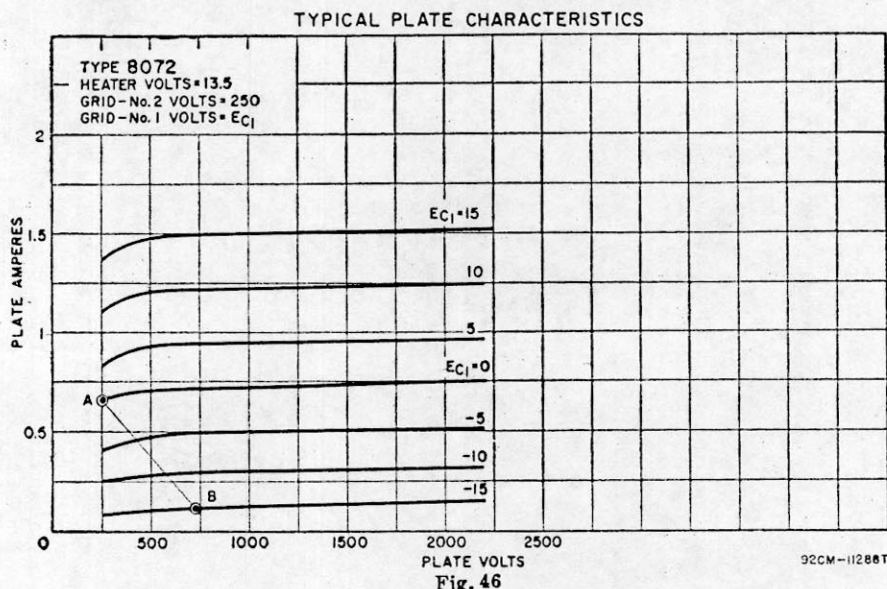
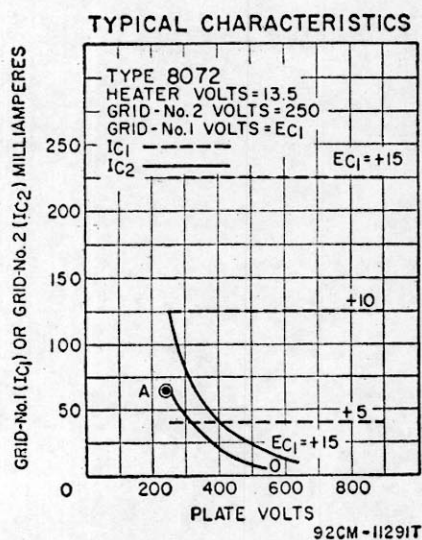

Fig. 46
Fig. 47
The operating conditions for a class AB1 linear rf amplifier used in single-sideband service can be estimated from the load line plotted on a set of plate characteristics. The typical plate and grid-No.2 characteristic curves shown in Figs. 46 and 47 are used in the following
(3) Select a value of zero-signal plate current ( $I_{b0}$ ) between  $1/6$  and  $1/10$  of  $I_{bmax}$  found in (2). Locate  $I_{b0}$  at selected  $E_b$  and construct a load line to the point found in (2). In general, the
(5) Determine the grid-No.1 bias ( $E_{c1}$ ) from graph at the point of zero signal found in (3).
(6) DC plate current at peak of envelope ( $I_{b0}$ ) is approximately equal to  $I_{bmax}/3$ .
(7) Average dc plate current ( $I_b$ ) is equal to  $I_{b0}/1.4$ .
(8) Determine peak grid-No.2 current ( $I_{c2max}$ ) from Fig. 47 at conditions in (2).
(9) DC grid-No.2 current at peak of envelope ( $I_{c20}$ ) is approximately equal to  $I_{c2max}/4$ .
(10) Average grid-No.2 current ( $I_{c2}$ ) is approximately equal to  $I_{c20}/1.4$ .
(11) Average grid-No.2 dissipation ( $P_{c2}$ ) is approximately equal to  $E_{c2} \times I_{c2}$ .
(12) Peak Envelope Power input ( $P_{ine}$ ) is equal to  $E_b \times I_{b0}$ .
(13) Peak Envelope Power output (PEP) is equal to  $(I_{bmax}/4) (E_b - E_{bmin})$ .
(14) Average Plate Dissipation ( $P_p$ ) is equal to  $0.7 P_{ine} - 0.5 \text{ PEP}$ .
(15) Average Power Output ( $P_o$ ) is equal to  $\text{PEP}/2$ .
(16) Effective rf load resistance ( $R_p$ ) is equal to  $2(E_b - E_{bmin})/I_{b0}$ .
(1) The plate voltage is selected to be 700 volts; grid-No.2 voltage, 250 volts.
(2) On Fig. 46 plot the maximum-signal point at knee of  $E_{c1} = 0$  curve (point A). Read  $I_{b\max} = 0.65$  ampere. Locate  $E_{b\min}$  at 250 volts.
(4) On Fig. 46 plot the minimum-signal point at  $E_b = 700$  volts and  $I_{b0} = 0.10$  ampere (point B).
(5) On Fig. 46 read  $E_{c1}$  at -15 volts at minimum-signal point B.
(6) Calculate:  $I_{be} = I_{b\max}/3 = 0.650/3 = 0.22$  ampere.
(7) Calculate:  $I_b = I_{be}/1.4 = 0.22/1.4 = 0.16$  ampere.
(8) On Fig. 47 locate point A at  $E_b = 250$  volts and  $E_{c1} > 0$  on grid-No.2 current curves. Read  $I_{c2\max} = 0.065$  ampere.
(9) Calculate:  $I_{c2e} = I_{c2\max}/4 = 0.065/4 = 0.016$  ampere.
(10) Calculate:  $I_{c2} = I_{c2e}/1.4 = 0.016/1.4 = 0.011$  ampere.
(11) Calculate:  $P_{c2} = E_{c2} \times I_{c2} = 250 \times 0.011 = 2.7$  watts. Verify that grid-No.2 dissipation is within rating.
(12) Calculate:  $P_{ine} = E_b I_{be} = 700 \times 0.22 = 154$  watts.
(13) Calculate:  $PEP = (I_{b\max}/4) (E_b - E_{b\min}) = (0.650/4) (700 - 250) = 73$  watts.
(14) Calculate:  $P_d = 0.7 P_{ine} - 0.5 PEP = 0.7 (154) - 0.5 (73) = 71$  watts.
(15) Calculate:  $P_o = PEP/2 = 73/2 = 36.5$  watts.
(16) Calculate:  $R_p = 2 (E_b - E_{b\min})/I_{b\max} = 2(700-250)/0.65 = 1384$  ohms.